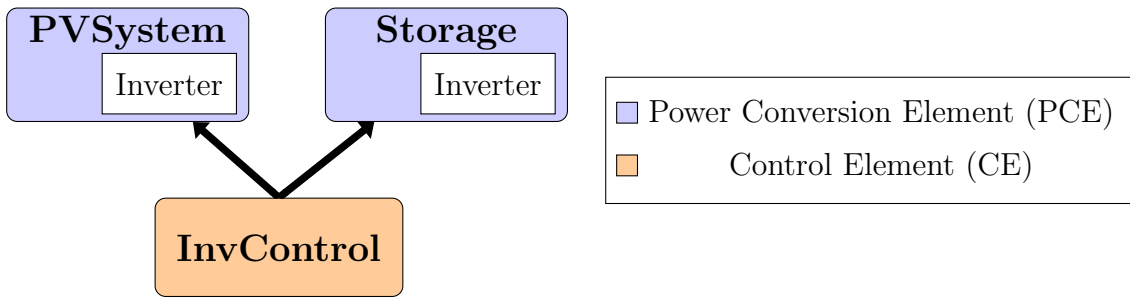

Figure 1: Relation between PVSystem, Storage and InvControl elements
Up to this date, there is no standalone element for an inverter in OpenDSS. All inverter-related settings/functions span over PVSystem and Storage Power Conversion Element (PCE) and InvControl Control Element (CE) models. Even though IEEE 1547-2018 is applicable to DER with different power conversion device technologies such as synchronous machines, induction machines and static power inverters/converters, the features described in this document apply only to the aforementioned OpenDSS PCE. Figure 1 shows the relation between these elements and references [2] and [3] provide a detailed explanation about them.